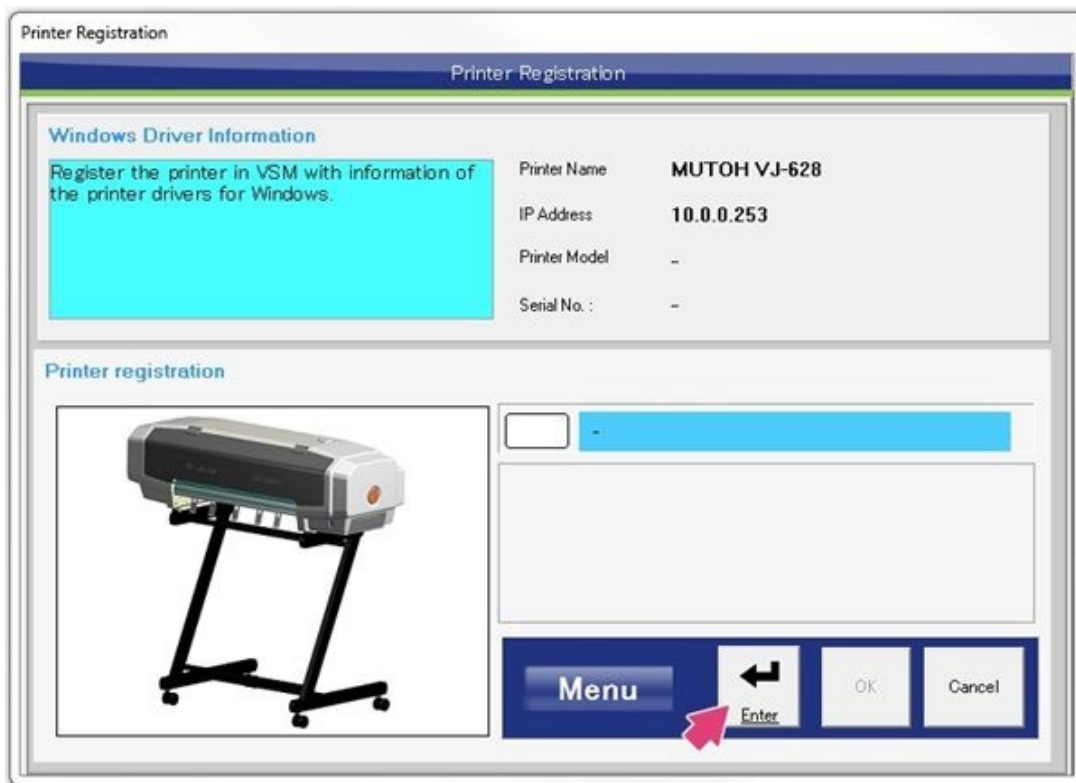

Figure 42
29. You will now be prompted to register the printer. To begin, select **Enter**. See Figure 42.